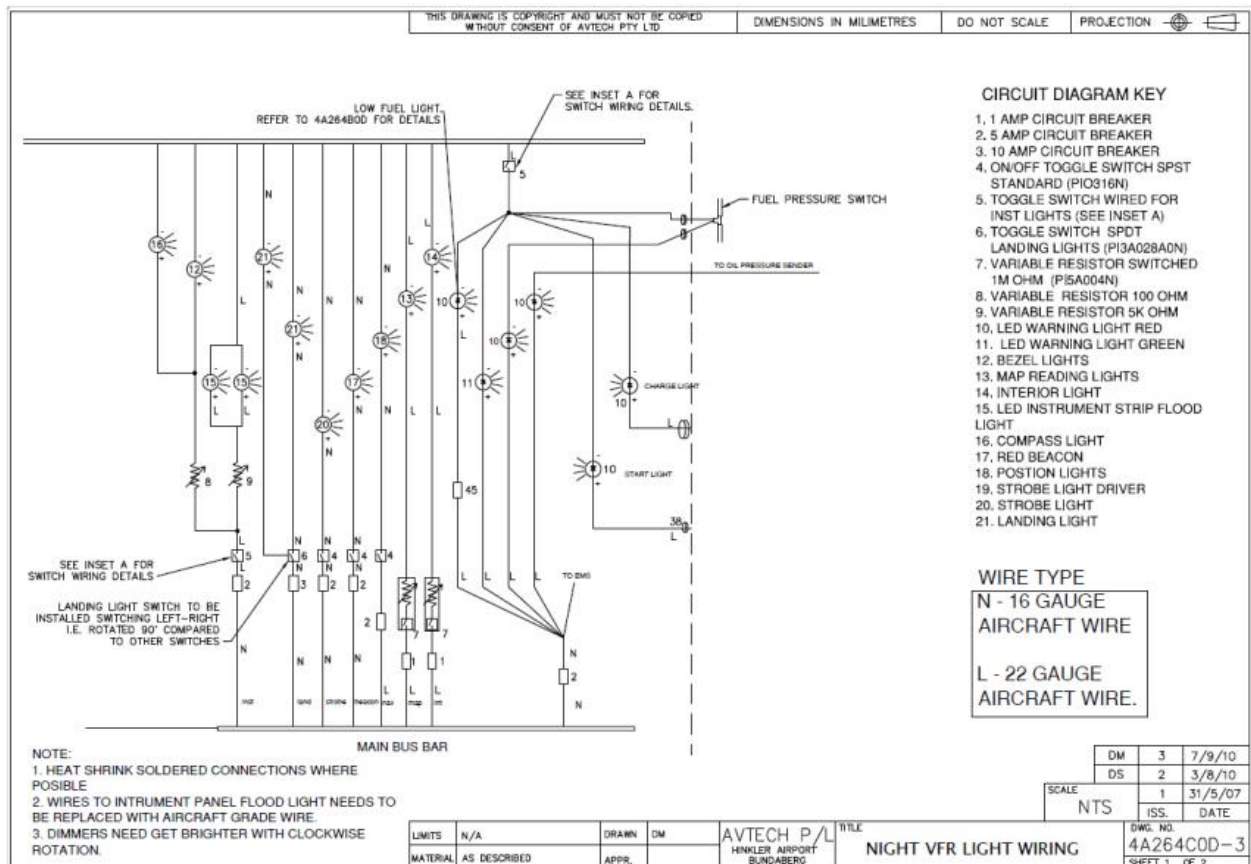
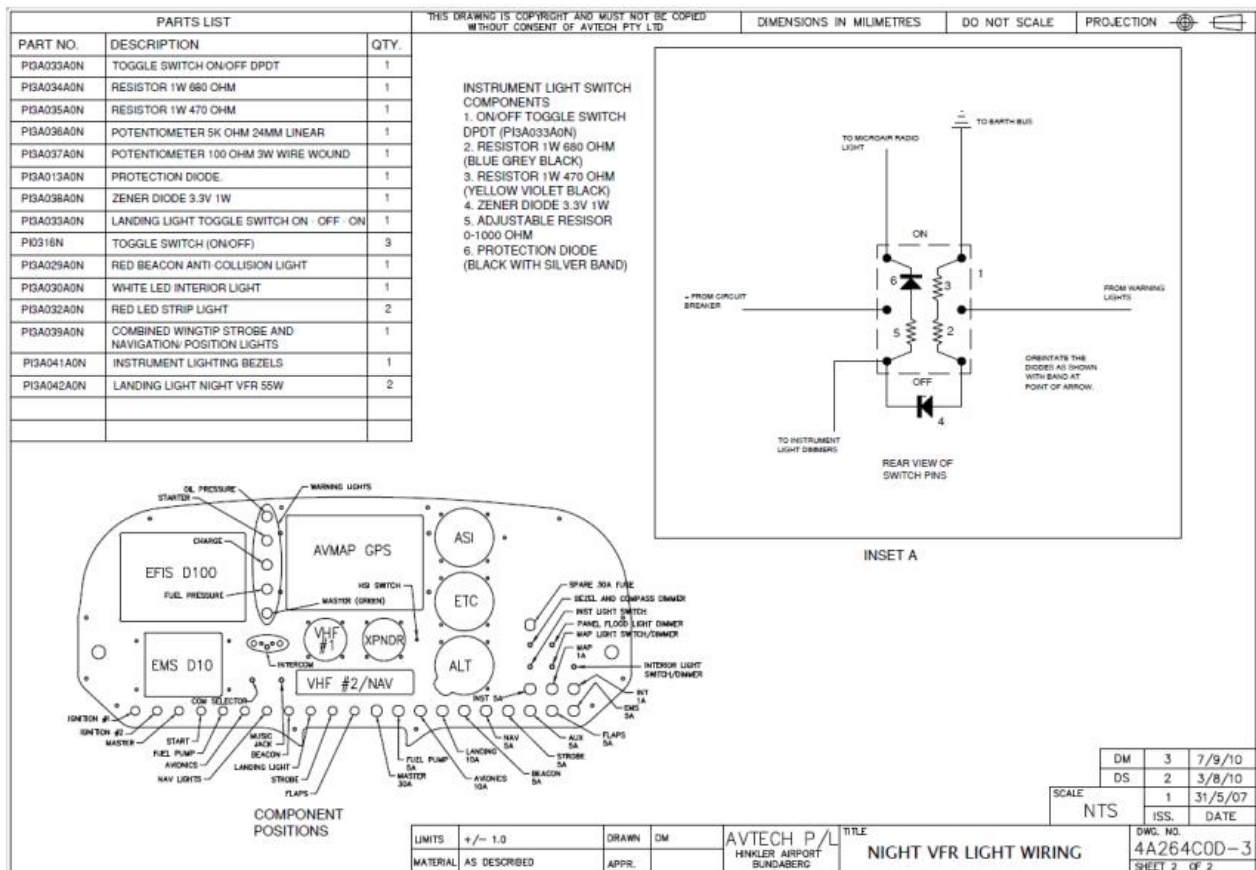

Figure 126 – Night-VFR Lighting Sheet 1
Figure 127 – Night-VFR Lighting Sheet 2
- The wiring diagram for night-VFR lighting is shown in Figure 126 and Figure 127.